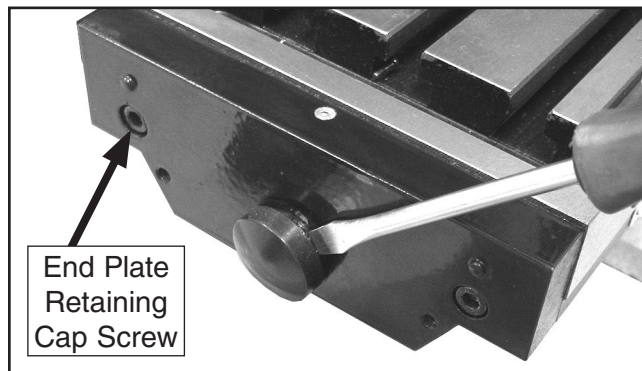

Figure 7. Cap removal.
9. Using a standard screwdriver, pry the leadscrew dust cap off (**Figure 7**).
10. Use a 5mm hex wrench, remove the two end plate retaining cap screws (**Figure 7**).